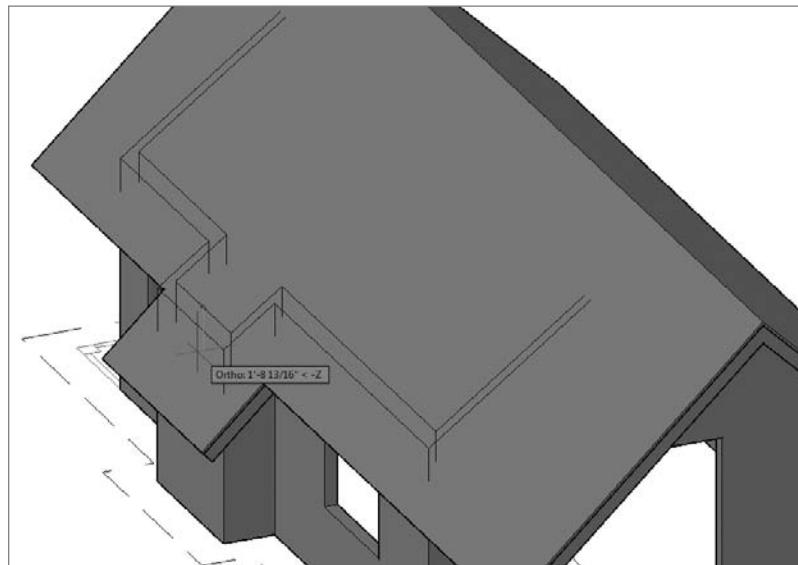

FIGURE 16.89 Adjusting the pop-out walls
8. Turn on Ortho mode; then move the edge downward, below the surface of the roof. Figure 16.89 shows the edge being moved from a northeastern viewpoint.